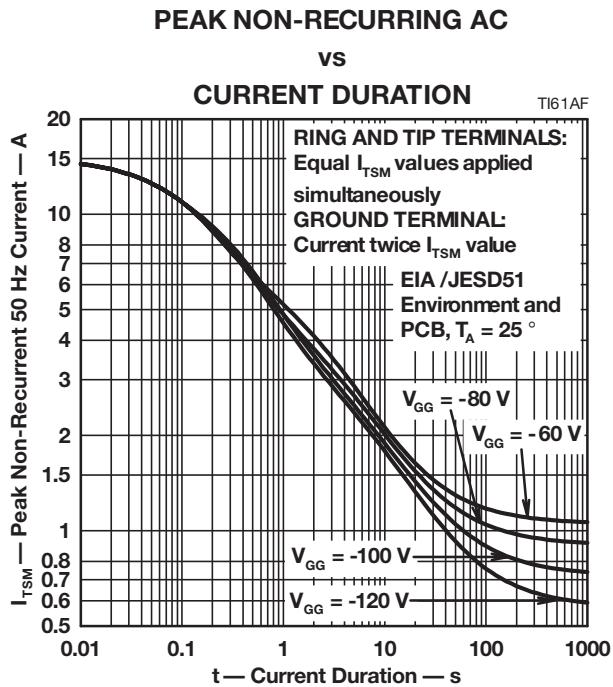

Figure 4
3. Values for $V_{\text{GG}} = -120$ V. For values at other voltages see Figure 4. Above 25°C , derate linearly to zero at 150°C lead temperature.